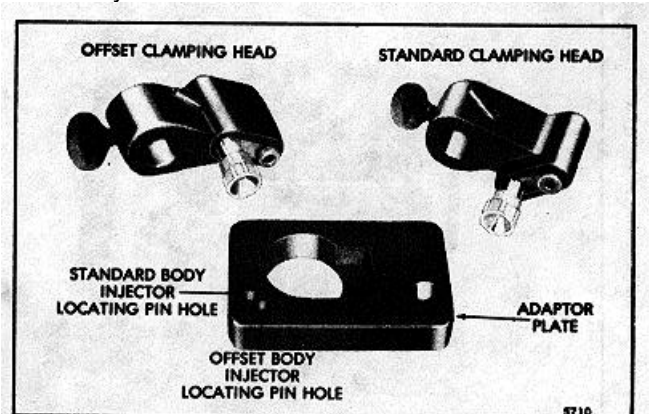
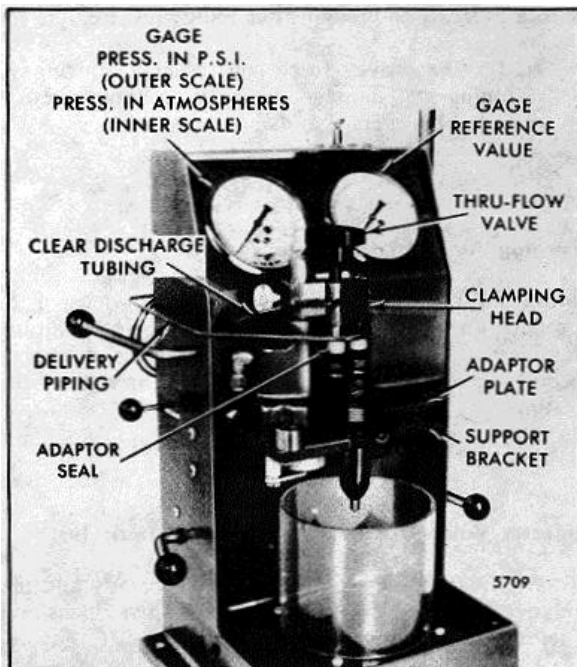

Fig. 11. Injector Tester J 23010 Clamping Heads
Fig. 12. Injector Installed in Tester J 23010 with clamping Head
1. Select the proper clamping head (Fig. 11). Position it on the clamping post and tighten the thumb screw into the lower detent position (Fig. 12).
5. Mount the injector through the large hole and insert the injector pin in the proper locating pin hole (Fig. 11).
2. Align the clamping head nylon seals over the injector filter caps (Fig. 12).